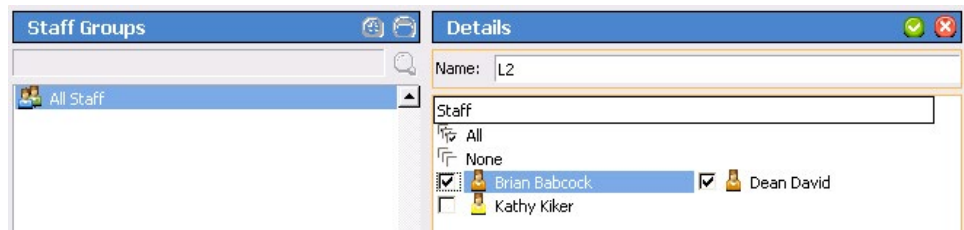

Figure 63: Add Staff Groups
1. Using the **Staff Groups** register in the Event Monitor, click the **Add** button in the **Staff Groups** pane to unlock the **Details** editing pane as shown in Figure 63.